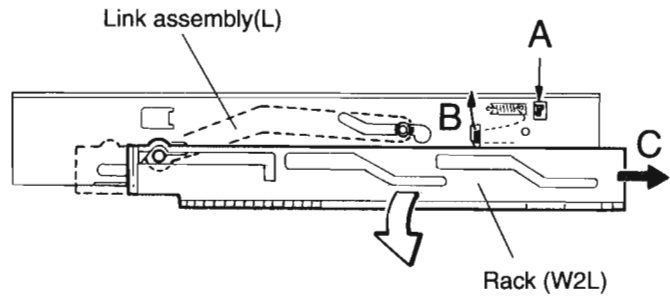

Fig.24
3. Push part A in the direction of the arrow to unlock part B. Move and remove Rack (W2L) in the direction of arrow C. Detach the Link assembly(L) (see Fig.24).